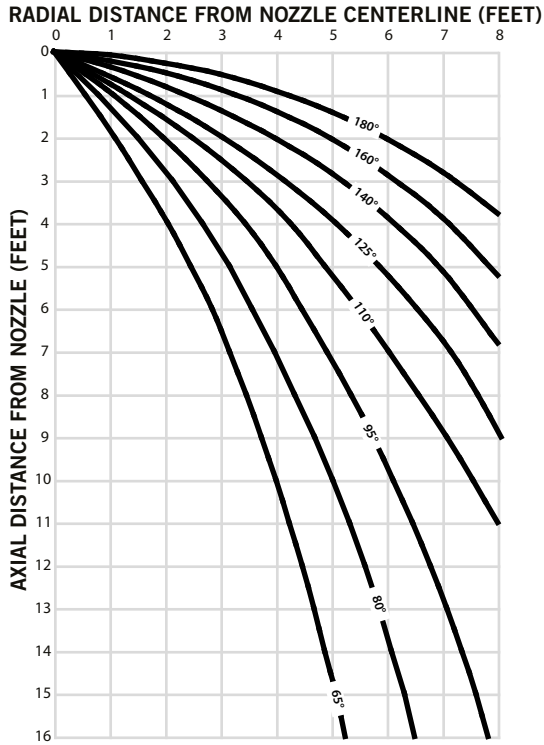
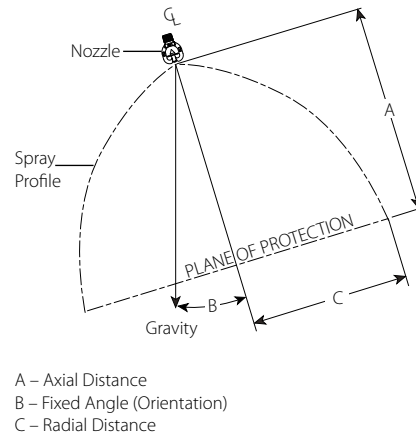

FIGURE 2: DESIGN SPRAY PROFILES (ALL K FACTORS)
FIGURE 3: SPRAY COVERAGE VARIABLES
- Figure 2 illustrates the radial distance at various heights based upon testing in the pendent position at 10 psi, 20 psi, and 60 psi / 69 kPa, 138 kPa, and 414 kPa discharge pressure (see Figure 3, Variable C).
- For FM only installations, use a recommended tolerance of +/- 2 ft [0.6 m] from nominal for the radial distances shown (x-axis) in Figure 2 for all fixed angle orientations. Use a recommended spray profile angle tolerance of +/- 5° in the pendent position (vertically downward) and +/-10° in all other fixed angle orientations.
- For UL/NFPA only installations, use a recommended tolerance of +/-15% from nominal for the radial distances shown (x-axis) in Figure 2 for all fixed angle orientations.